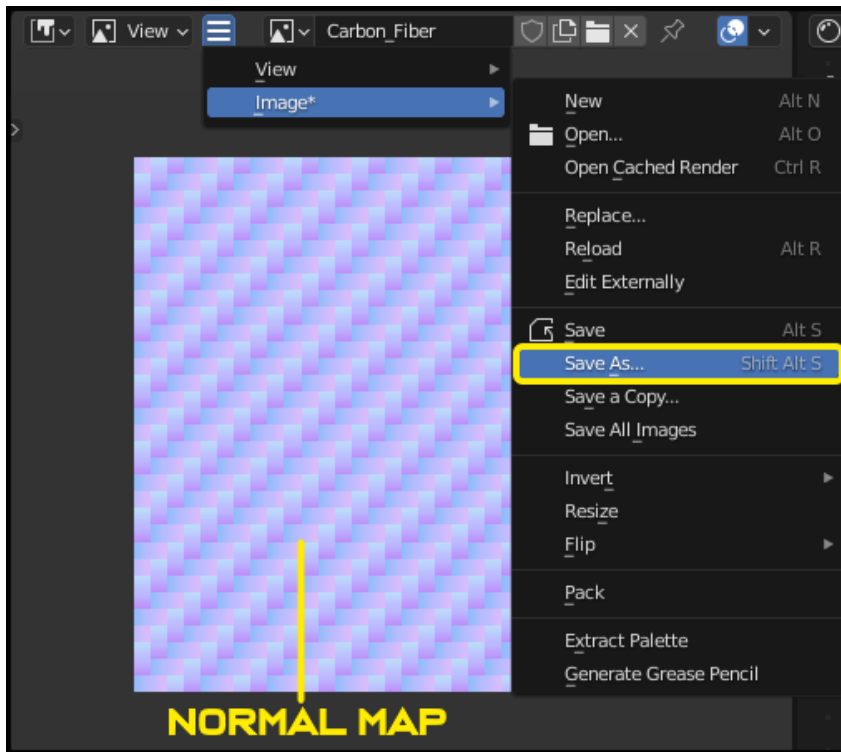

Figure 6.12 – Baked normal map
12. After a few minutes, the blank image will turn into a normal map, which should look something like in *Figure 6.12*. Save this normal map image on your computer.